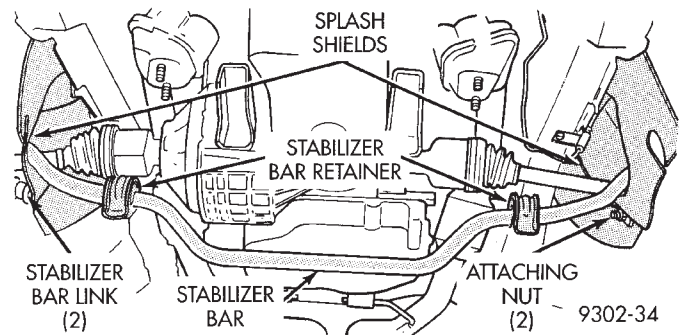

Fig. 51 Stabilizer Bar Removal And Installation
(11) After cradle assembly is removed from vehicle. Remove the 2 stabilizer bar, to stabilizer bar link attaching nuts (Fig. 51). Remove stabilizer bar assembly from vehicle.
(1) Install stabilizer bar, isolator bushings and retainers back in vehicle as an assembly (Fig. 51). Be sure stabilizer bar is installed through openings in splash shields (Fig. 51). Install the stabilizer bar link to stabilizer bar attaching nuts. Tighten the two stabilizer bar links to stabilizer bar attaching nuts to a torque of 95 N·m (70 ft. lbs.).